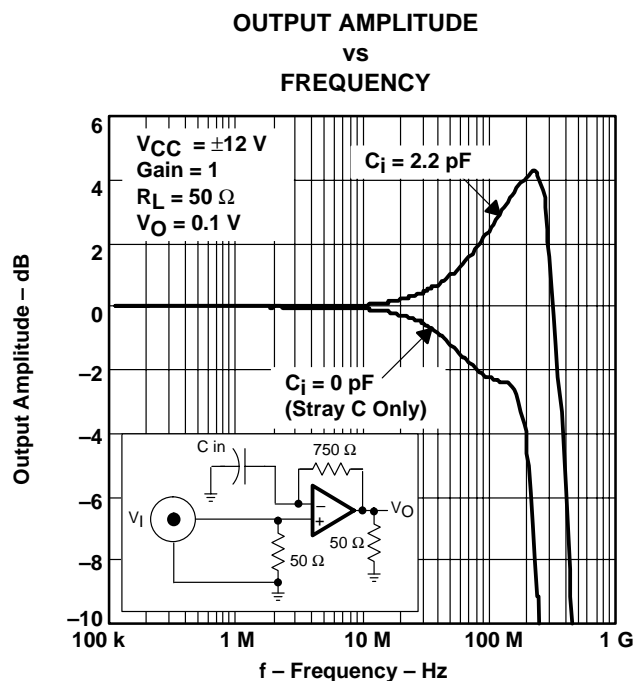
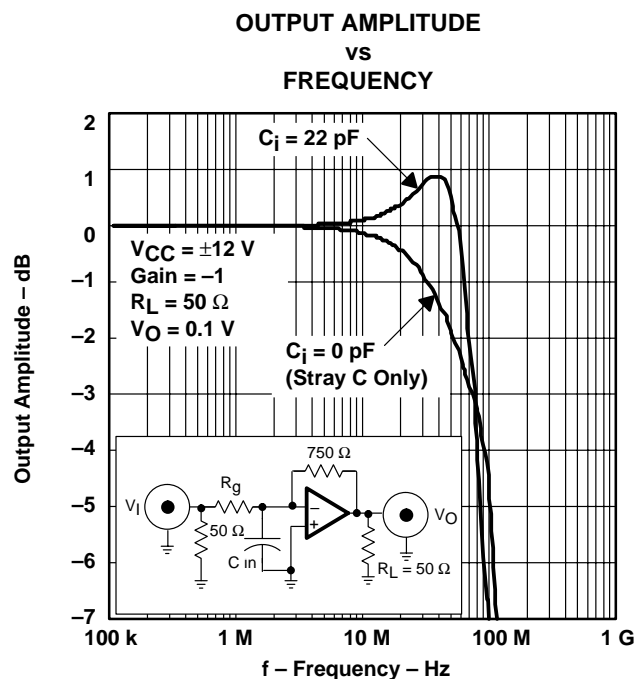

Figure 41
Figure 42
- **Input stray capacitance** – To minimize potential problems with amplifier oscillation, the capacitance at the inverting input of the amplifiers must be kept to a minimum. To do this, PCB trace runs to the inverting input must be as short as possible, the ground plane must be removed under any etch runs connected to the inverting input, and external components should be placed as close as possible to the inverting input. This is especially true in the noninverting configuration. An example of this can be seen in Figure 41, which shows what happens when a 2.2-pF capacitor is added to the inverting input terminal in the noninverting configuration. The bandwidth increases dramatically at the expense of peaking. This is because some of the error current is flowing through the stray capacitor instead of the inverting node of the amplifier. While the device is in the inverting mode, stray capacitance at the inverting input has a minimal effect. This is because the inverting node is at a virtual ground and the voltage does not fluctuate nearly as much as in the noninverting configuration. This can be seen in Figure 42, where a 22-pF capacitor adds only 0.9 dB of peaking. In general, as the gain of the system increases, the output peaking due to this capacitor decreases. While this can initially appear to be a faster and better system, overshoot and ringing are more likely to occur under fast transient conditions. So, proper analysis of adding a capacitor to the inverting input node should always be performed for stable operation.